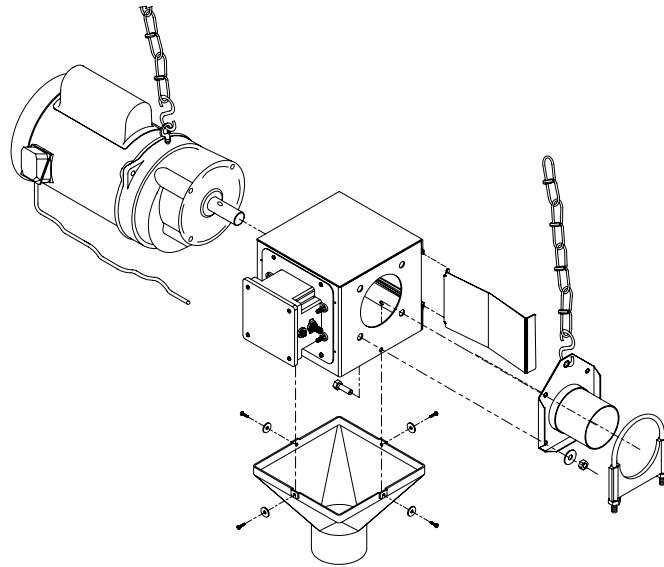

Figure 18: Direct Drive/Power Unit
7. Suspend power/control unit firmly from the ceiling as shown in Figure 18. Support holes are provided on the power unit and the control unit.